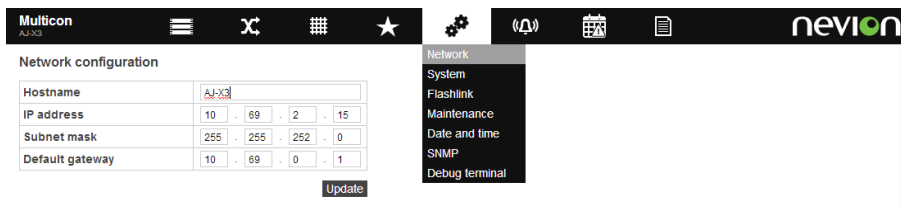

Figure 6.1 Web interface network settings
4. Select the Config tab and click on Network which presents the page shown in Figure 6.1.